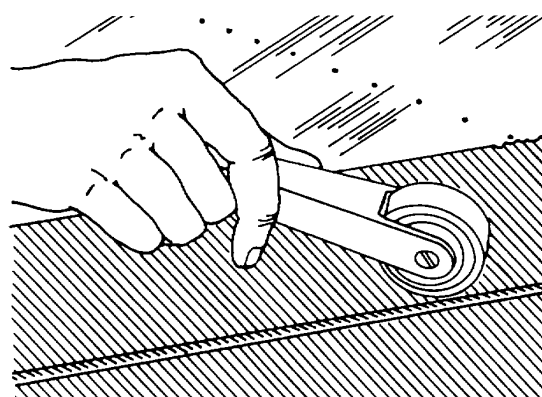

Figure 7-19. Using Deicer Boot Roller
**7-14. Deicer Boot Roller.** The deicer boot roller is used to roll the flaps of the deicer boot when cementing them to the wing, as shown in figure 7-19. Occasionally lubricate the roller axle to allow smooth rolling.